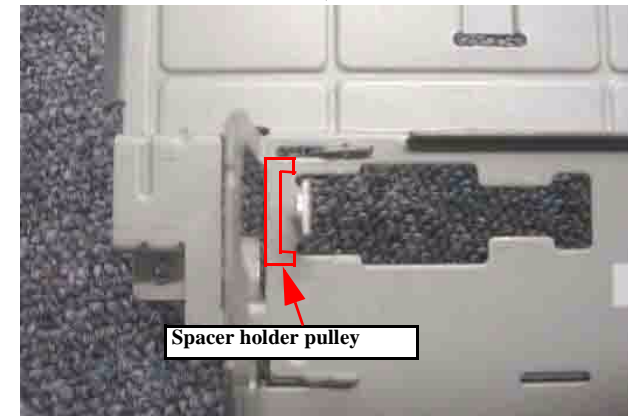

Figure 4-13. Pasting position for the Spacer holder pulley driven
- Do not remove the Spacer holder pulley driven from the Main frame. (This part has been pasted only for the products in IEI as the countermeasure of the quality problem. (Refer to Figure 4-13))